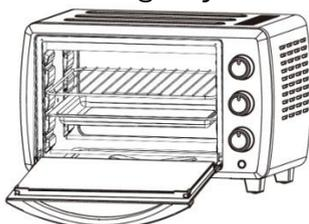

Fig. 4
- Where to fit the baking tray and rack – See fig 4
- If placing food directly onto the grill rack, fit the baking tray into the lower oven rack rest to act as a drip / crumb tray (fig 4).